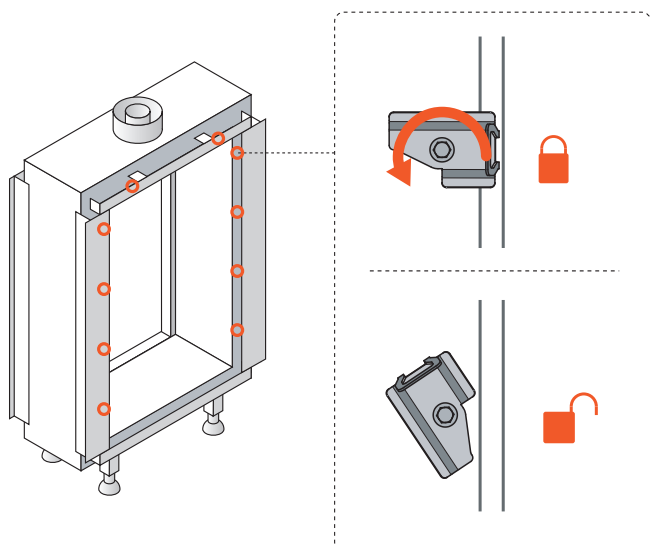
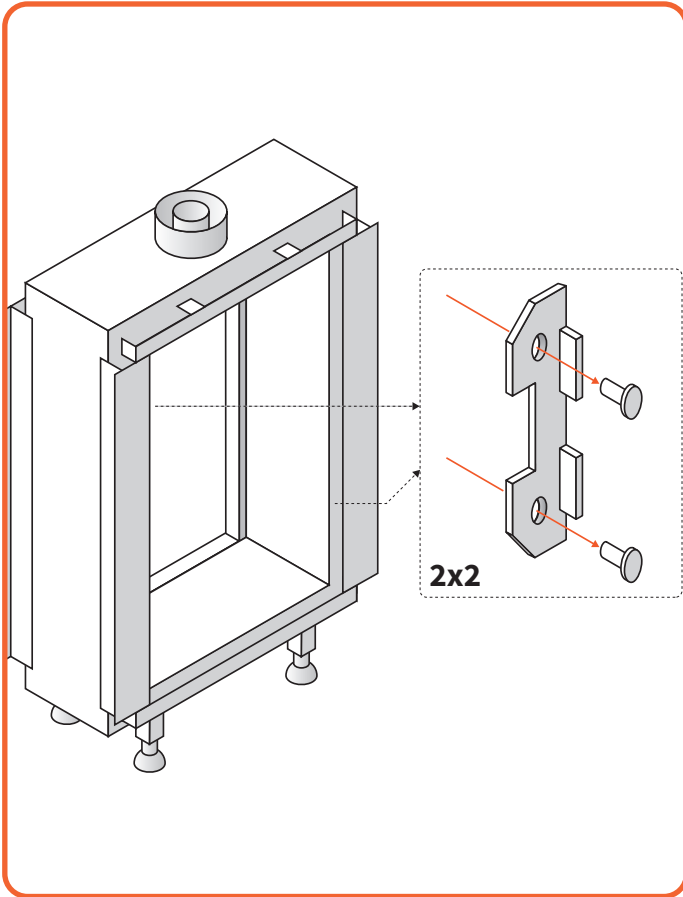

Figure 9.8 | Turn glass clamps to release glass
Figure 9.10 | Remove glass brackets
- Determine which type of glass clamps are used: Screwed clamps - proceed to Figure 9.10, or spring loaded clamps - proceed to Figure 9.8
If screwed glass clamps are used, proceed to Figure 9.10
If spring loaded glass clamps are used, proceed to Figure 9.8